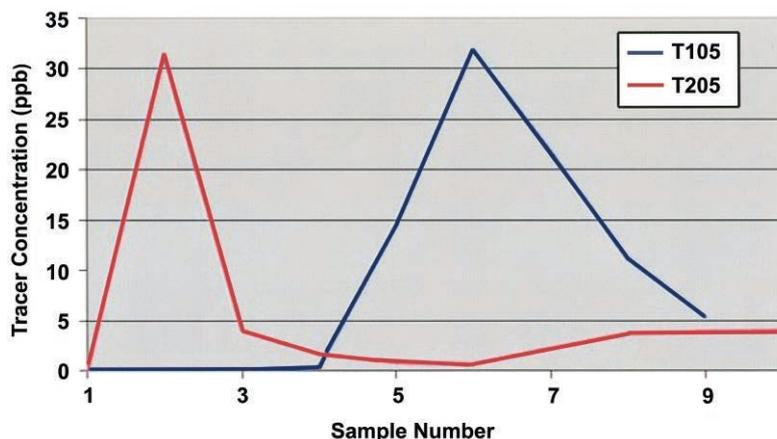

Figure 6 Tracer analysis data revealed a strong positive tracer response indicating that Exchanger B was leaking.
Analysis of the first chemical tracer (T105) appeared in sample A5 with the maximum concentration of tracer seen in sample A6 (Figure 6). The residence times matching these samples were 2.5 and 3 minutes. Since the residence times were not known exactly, these results indicated a leak either near the crude outlet of the bottom exchanger (A) or near the crude inlet of the top exchanger (B).